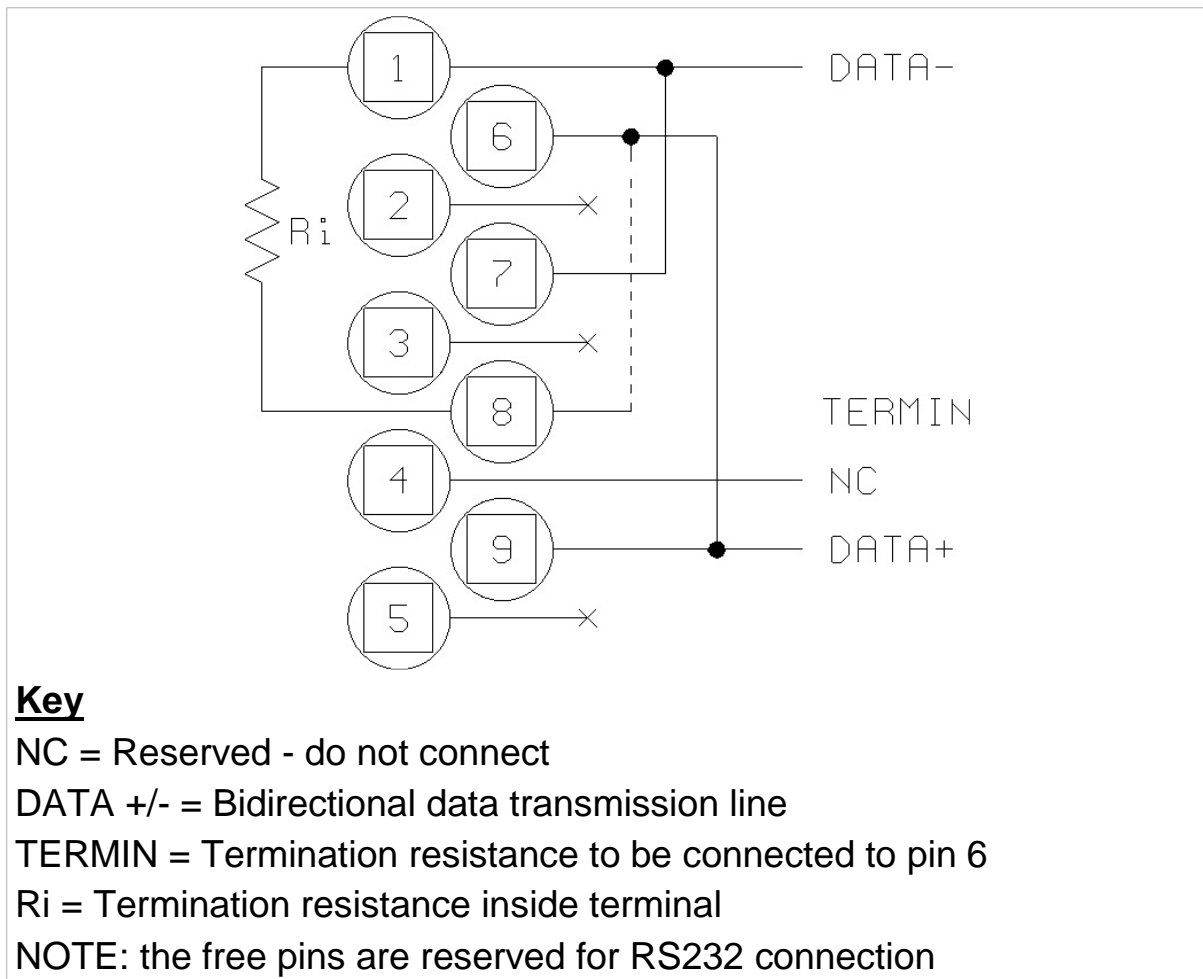

Figure 3.7 - Pinout for RS485 serial port connection (log0006.gif)
- connect together pins 9 and 6 and pins 1 and 7 (Figure 3.7 on page 1-25)